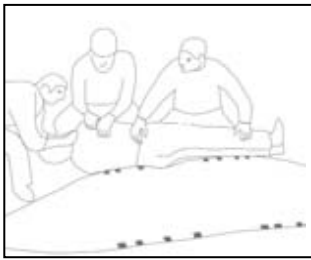

Fig. 4
- Log roll patient and slide Total as far under patient as possible. Gently roll patient down on to the stretcher (fig. 4).